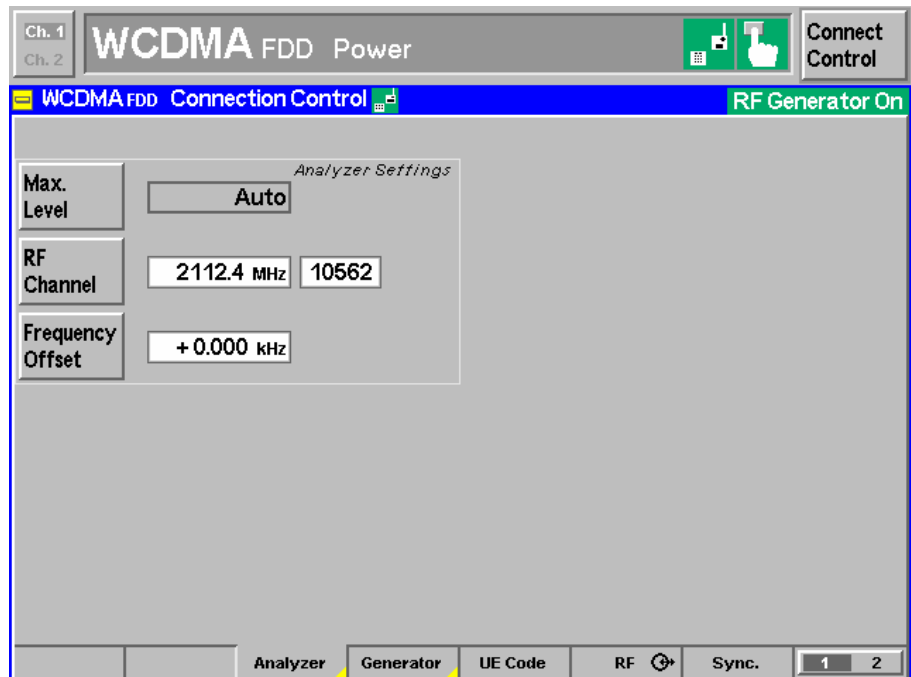
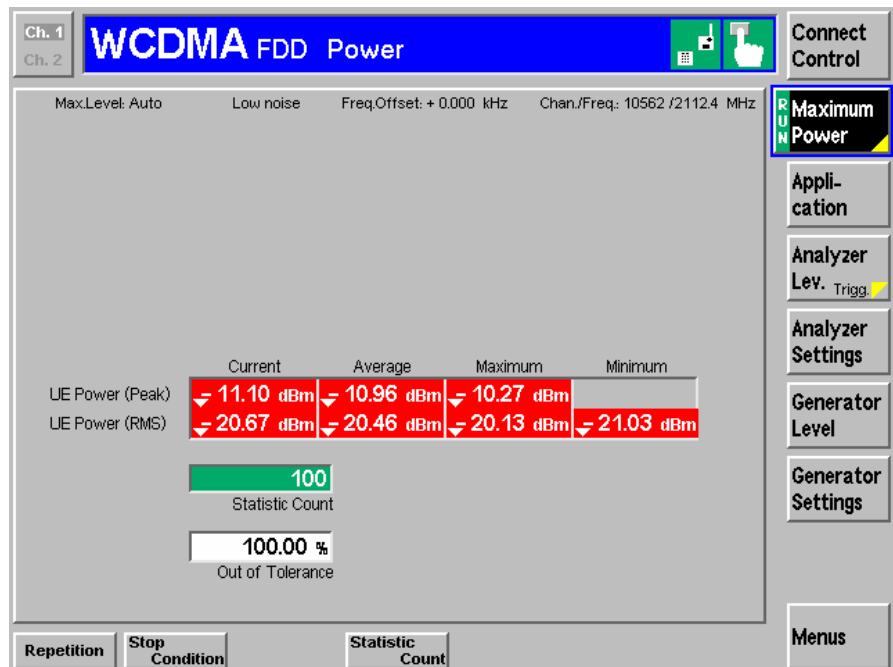

Fig. 21 CMU Analyzer Setup
Fig. 23 Power in Bypass Mode
10. The resulting Average MS Power P_{MEAS} (Fig. 23) must be subtracted from the reference power P_{REF} (Fig. 21) to obtain the **INSERTION LOSS** of the IQ path.